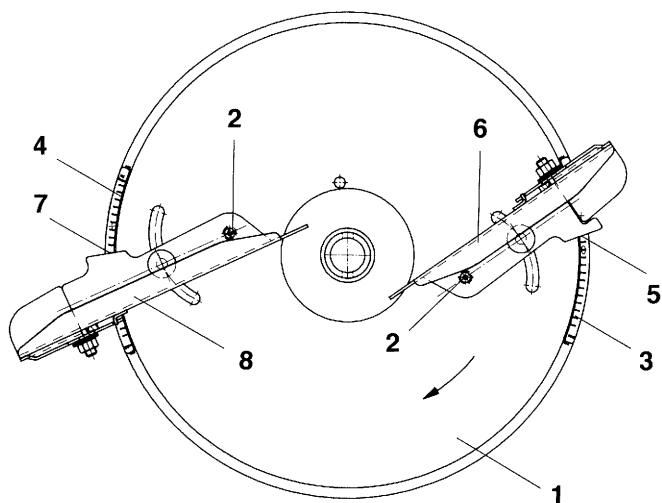

Fig. 7.10
The working width is influenced by the individual spreading properties of the fertiliser. The most important parameter of the spreading properties are, as you may be aware, the granule size, bulk density, surface texture and humidity. In dependence of the individual kind of fertiliser the „**Omnia-Set**“ (Fig. 7.10/1) spreading discs allow the setting of varying working widths between **10 and 18 m**, e. g. for matching the existing tramline spacings. For setting different working width the angle of the spreading vanes can steplessly be changed around the pivoting point (Fig. 7.10/2).
For an exact tool-less setting of the individual spreading vane positions different unmistakable scales (Fig. 7.10/3 and fig. 7.10/4) are placed on the spreading discs.
- Slide read off edge (Fig. 7.10/5) of the short vane (Fig. 7.10/6) on Fig. „8“ of scale (Fig. 7.10/3) and retighten thumb nut.
- Slide read off edge (Fig. 7.17/7) of the long vane (Fig. 7.01/8) on Fig. 41 of scale (Fig. 7.10/4) and retighten thumb nut.